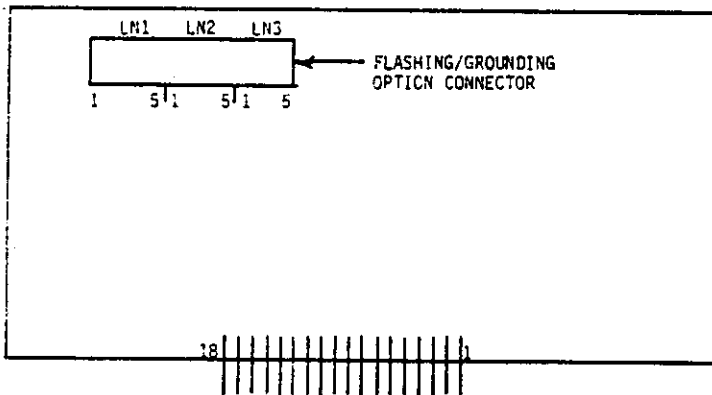

FIGURE 8 - CONNECTORS ON FGU-A CARD
4.40 Before the FGU-A card is installed, it must be strapped to provide either 'open loop flash' or 'ground on one side of the line'. Straps are required for each line. The connector on the FGU-A is designated LN1, LN2 and LN3. Strap the connector (see figure 8) as follows: